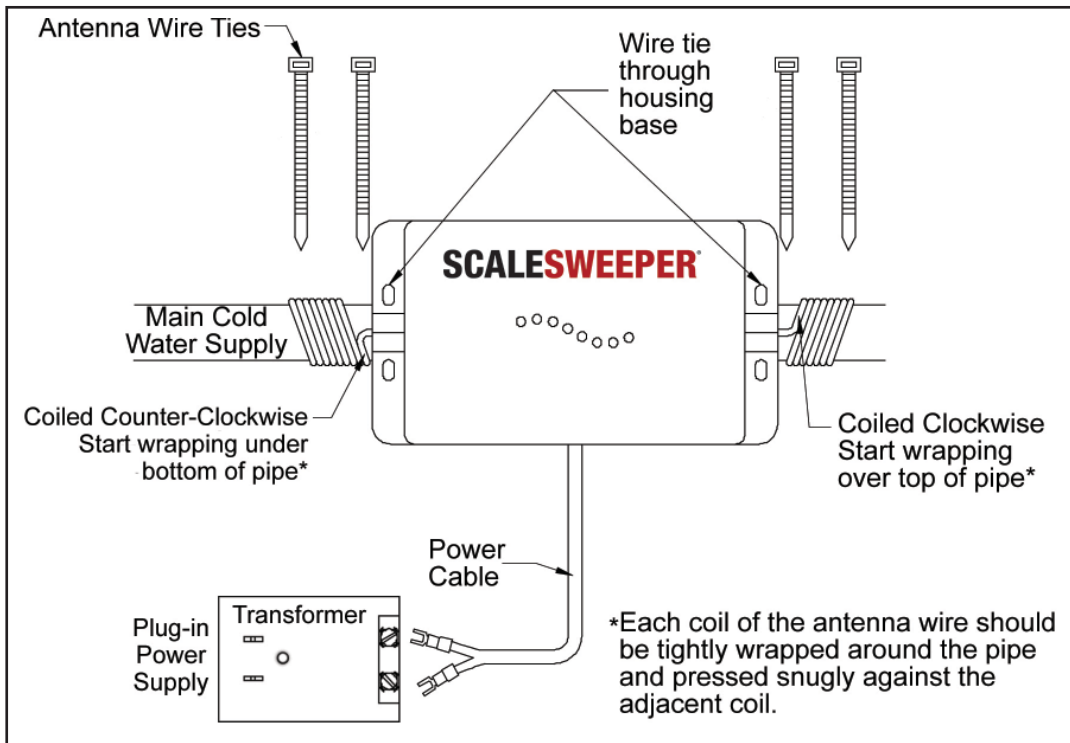
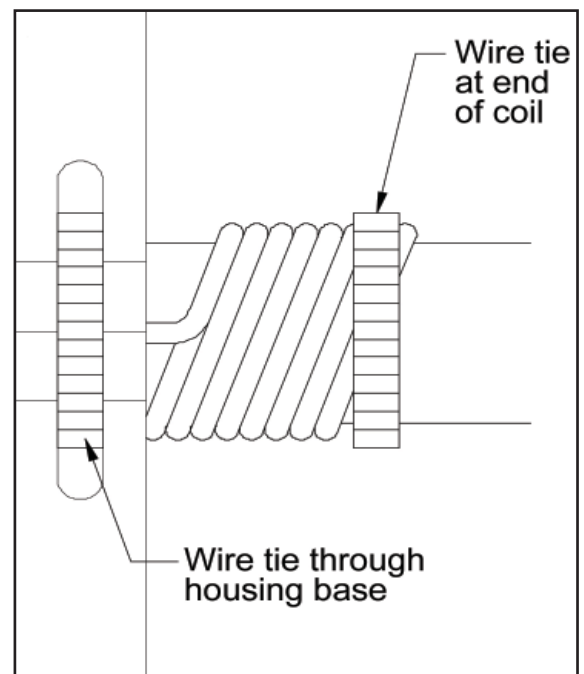

FIGURE 2
FIGURE 3
Wrap the red antennae wires around the water pipe protruding from each end of the SCALESWEEPER (refer to Figure 2). The operation of the SCALESWEEPER and the antenna installation is not based on direction of water flow, but **one antenna MUST be wrapped in a clockwise direction and the other wrapped in a counter-clockwise direction**. For best results, fully wrap the right antenna clockwise (over the top of the pipe first), keeping the antenna wire tight against the pipe and the preceding coil. Secure the end of the right antenna wire to the water pipe with a wire tie (refer to Figure 3). Wrap the left antenna wire counter-clockwise (under the bottom of the pipe first), keeping the antenna wire tight against the pipe and the preceding coil. Secure the end of the left antenna wire to the water pipe with a wire tie.
Wrap the right antenna clockwise (over the top of the pipe first), keeping the antenna wire tight against the pipe and the preceding coil. Secure the end of the right antenna wire to the water pipe with a wire tie (refer to Figure 3). Wrap the left antenna wire counter-clockwise (under the bottom of the pipe first), keeping the antenna wire tight against the pipe and the preceding coil. Secure the end of the left antenna wire to the water pipe with a wire tie.
Insert the unit power cable terminals onto the plug-in power supply (transformer) screw terminals and fasten securely. Plug the power supply into a standard 3 prong electrical wall outlet (refer to Figure 2). When energized, the SCALESWEEPER modulation indicator lights start flashing sequentially indicating that the unit is functioning properly.
*Loose Antennae Wires:* The antennae wires must be held tightly against the water pipe and the coils must be pressed snugly against each other to transfer the electromagnetic energy into the water. If the antennae wires are loose, tighten them and also retighten the wire ties. Be sure that the antennae wires are wrapped in the proper direction (refer to Figure 2).